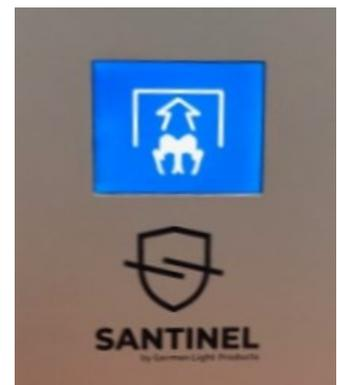

Figure 6. LCD display
- The backlit LCD display on the front of the Santinel shows a pair of hands and an arrow pointing into the disinfecting area (see Figure 6).